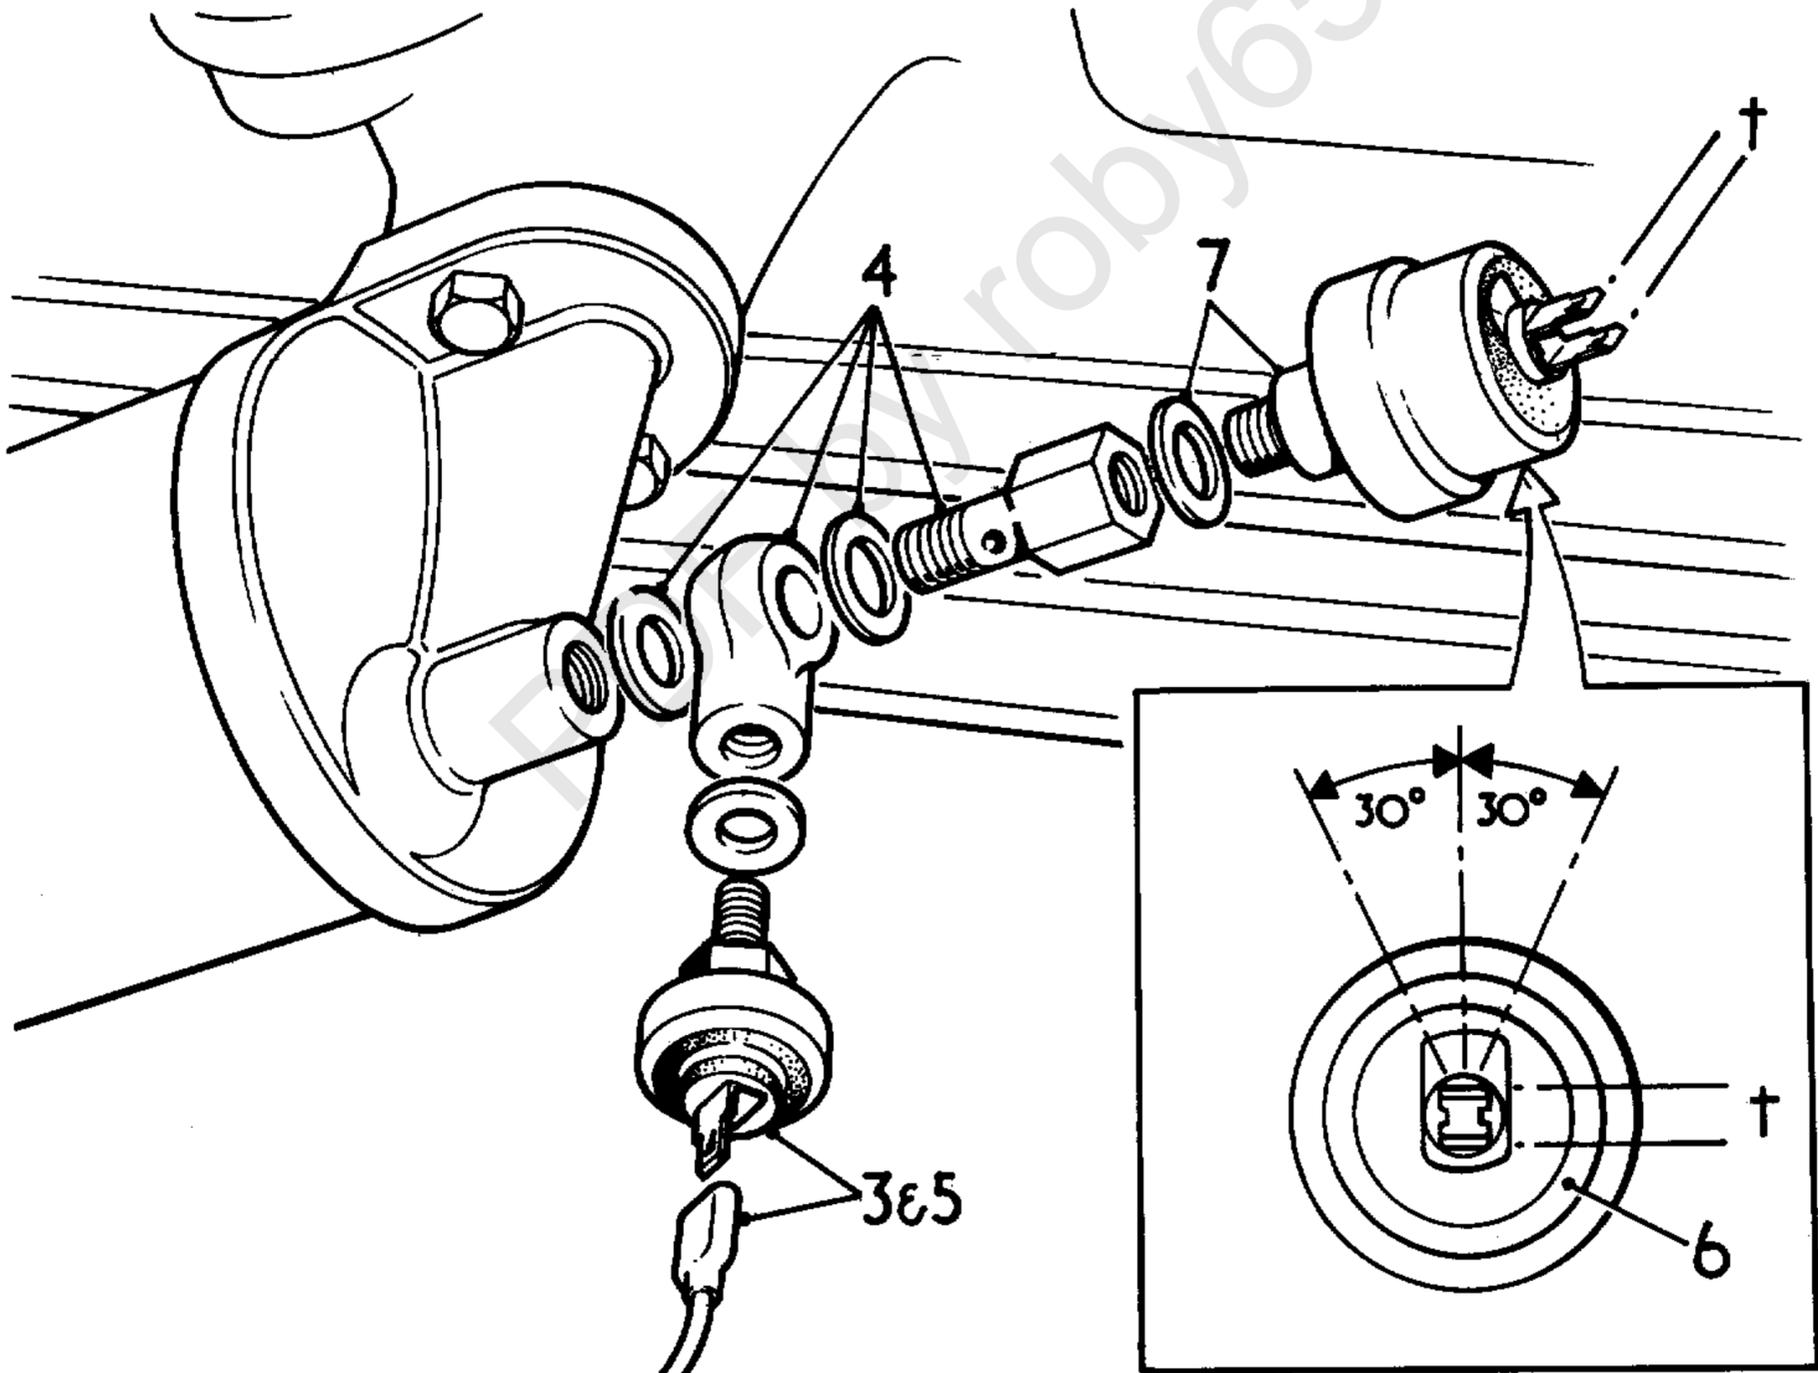

Fig.1. Oil pressure transmitter - 2½ Litre models
6. **IMPORTANT.** The oil pressure transmitter must be mounted with the two terminals within the limits shown in Fig.1., using shims 512387 as necessary.
2.6 Litre engines - items 8 to 9
9. Fit the oil pressure transmitter 555704 in place of the blanking plug, using shims 512387, detailed in item 6 and shown in Fig.1.